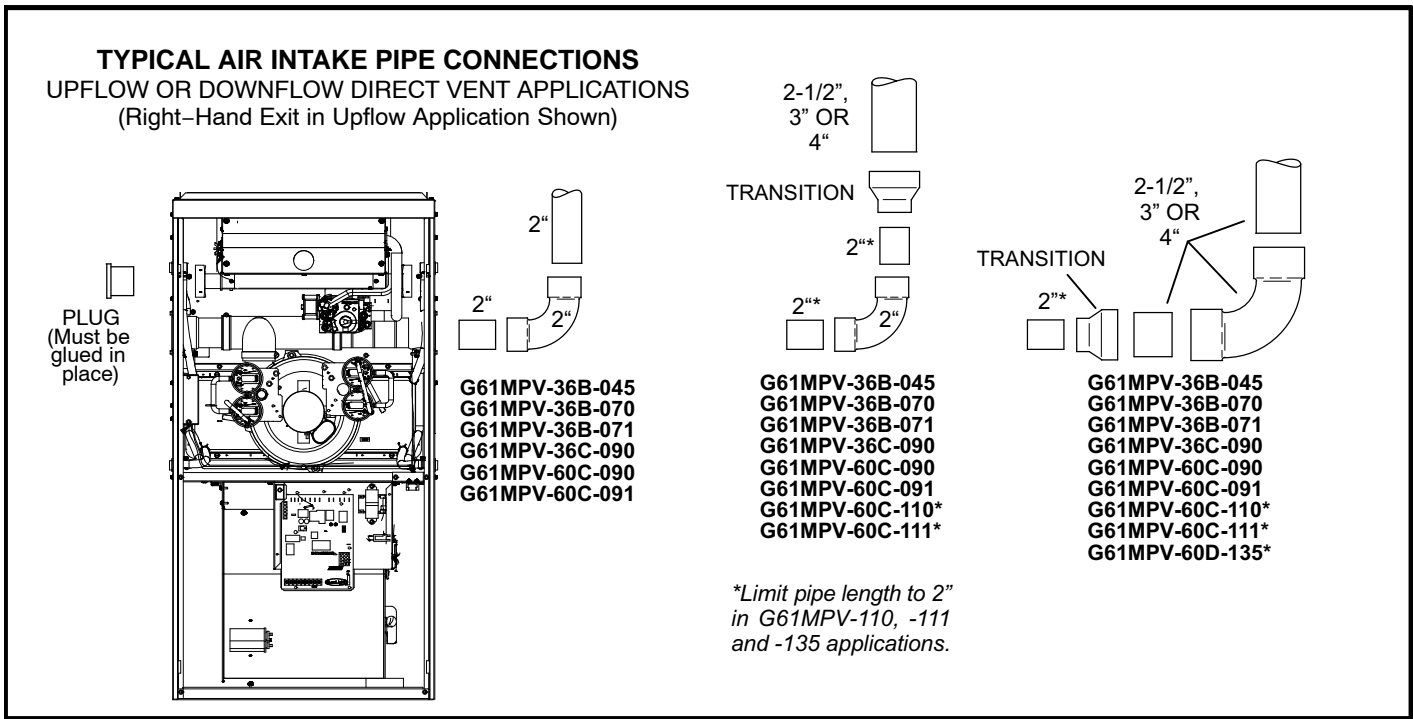

FIGURE 24
- 4 - Route piping to outside of structure. Continue with installation following instructions given in general guide lines for piping terminations and in intake and exhaust piping terminations for direct vent sections. Refer to figure 24 for pipe sizes.